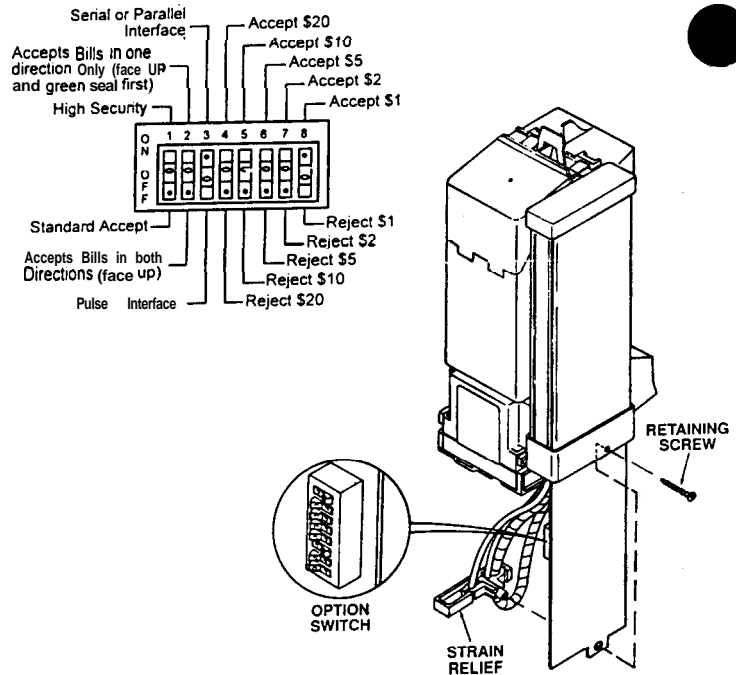

Figure 6
2. Remove the retaining screw that secures the logic board and strain relief. (See **Figure 6**.)